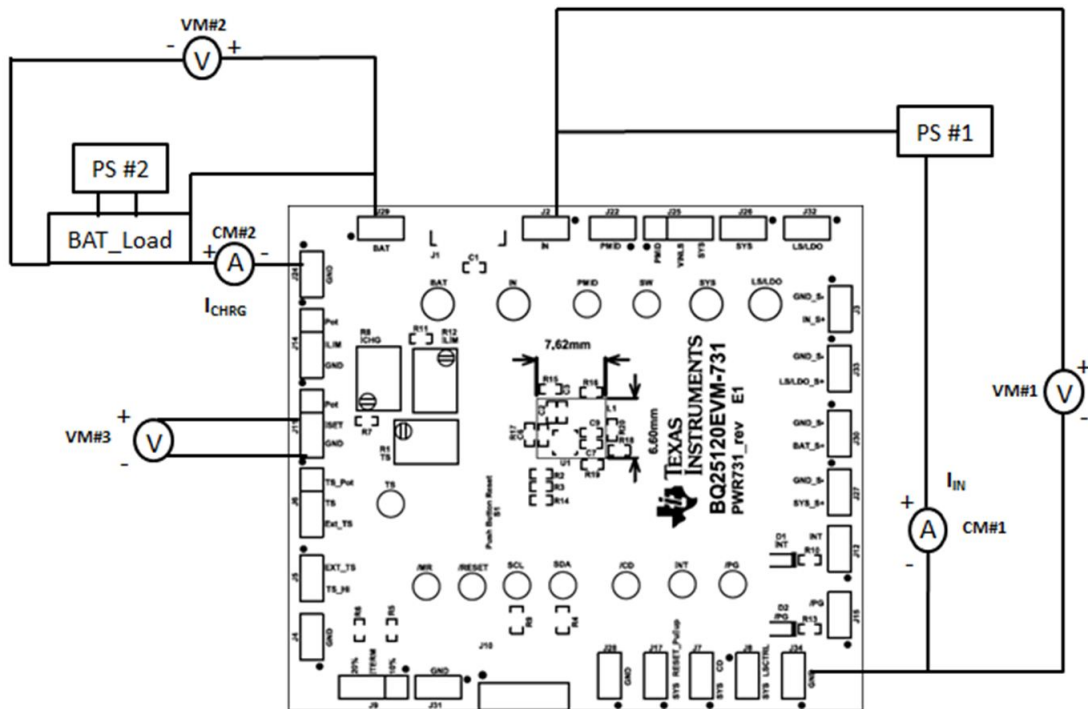

Figure 3. Test Setup for PWR731 (bq25120EVM-731)
After the preceding steps are accomplished, the test setup for PWR731 is as shown in Figure 3.
3. Go to Field View of the GUI and then read all the registers. All the default register values should be shown in the register map (as shown in Figure 3).